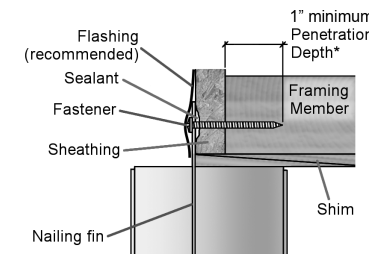

Figure 3 – General Installation
- (Required)** Apply a generous (at least 3/8" bead), continuous bead of exterior-grade sealant to ensure an adequate seal between the back of the nailing fin and the exterior surface of the rough opening (reference **Figure 3**).